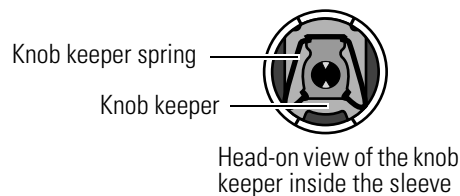

Figure 3.15 Removing the knob keeper spring
2. Using a pair of needle-nosed pliers, reach into the sleeve and remove the knob keeper spring. See Figure 3.15.